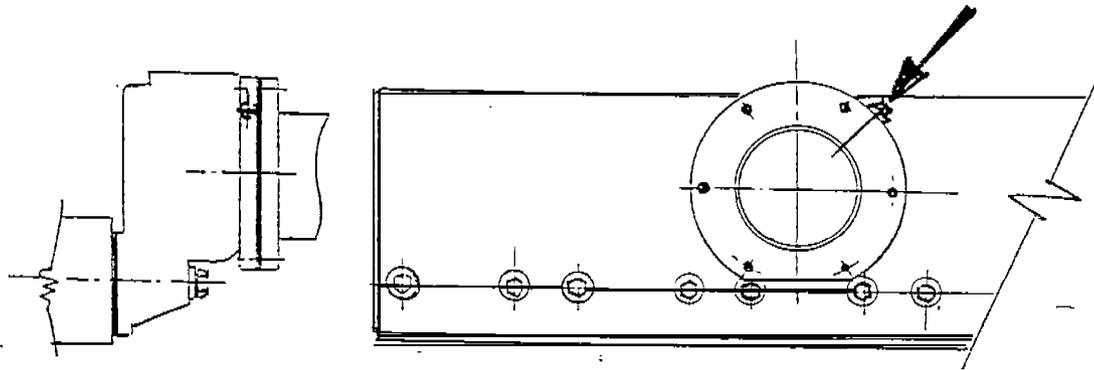

Figure 14. Location of Exhaust System Back Pressure Test Port
26. () Connect a manometer or magnehelic to the test port in the exhaust manifold flange shown in Figure 14. Run the engine at full throttle, no load, with exhaust conditioner filled to normal operating water level. The exhaust backpressure does not exceed 34 inches of water.